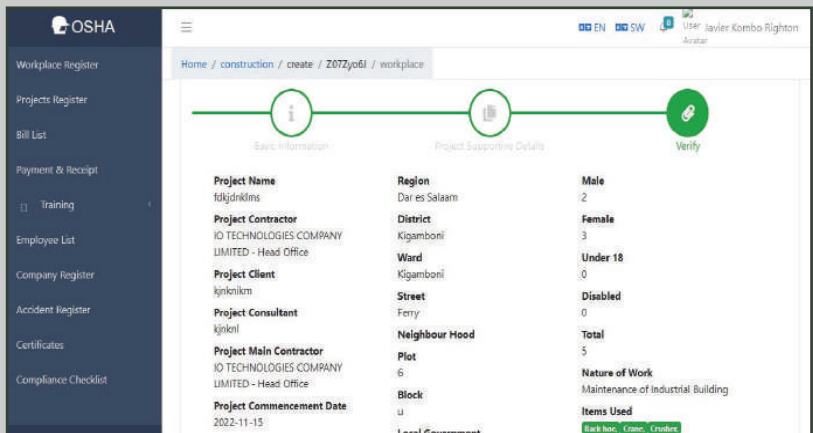

Figure 30: Verify submitted details page
- v) Verify all details provided for Construction Project Registration THEN click FINISH to submit project registration details as illustrated in Figure 30.